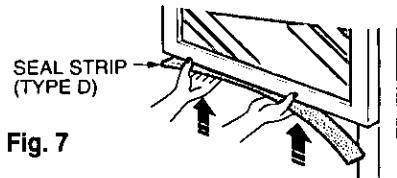

Fig. 7
2. Cut the adhesive-backed seal strip (TYPE D) to the window width. Remove the backing from the seal strip and attach the seal strip to the underside of the bottom window. (Fig. 7)